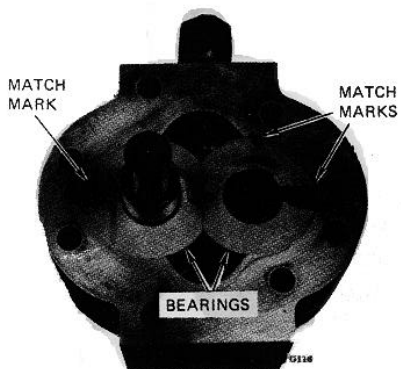
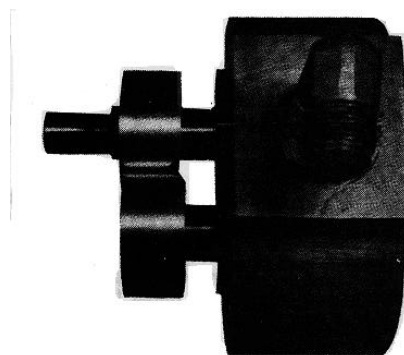

FIGURE 9-84.
FIGURE 9-85.
b. Mark relative position of front and rear bearings and body (see figure 9-84). Do not scratch; use Prussion blue for marking of all pump parts. Push on rear of gear shafts until front bearings are free of the housing (see figure 9-85). Remove bearings. Mark relative position of gears, then extract gears. Match mark and remove rear bearings.